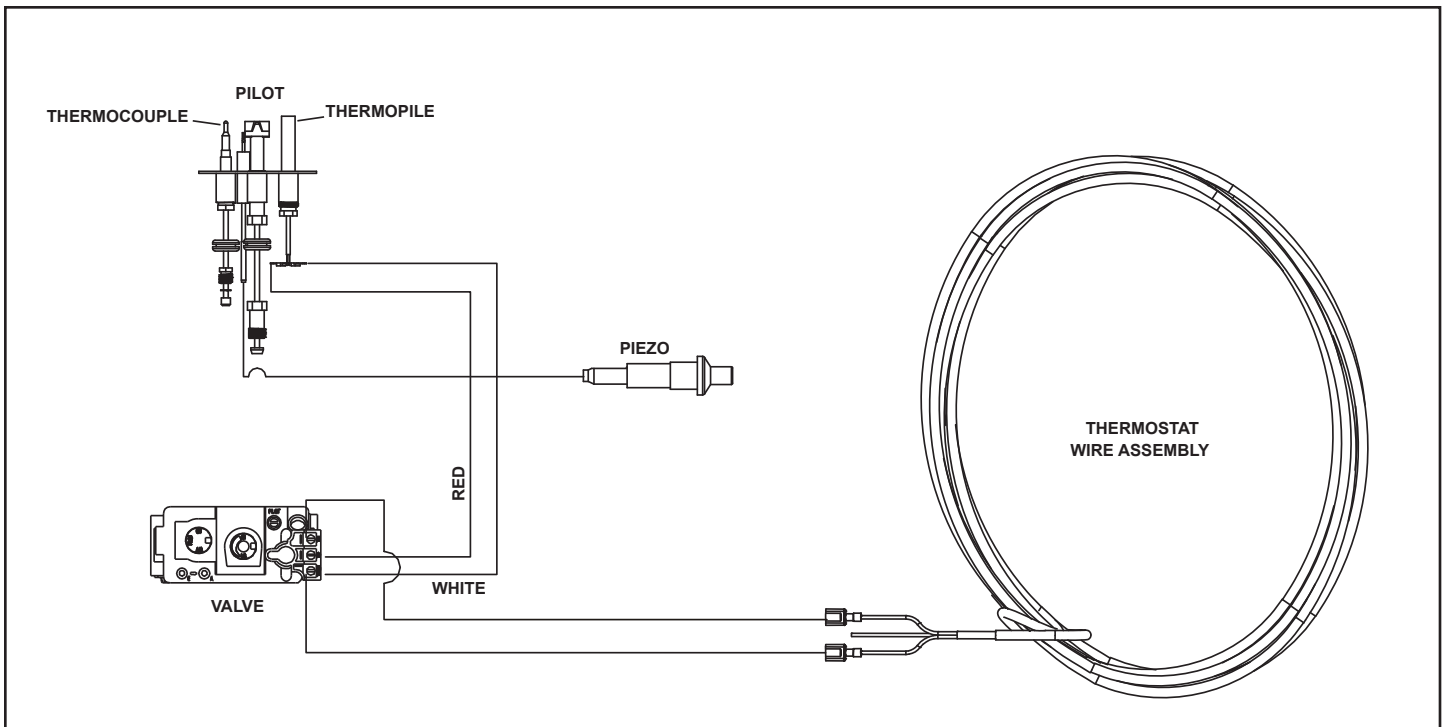

Figure 8.5 Standing Pilot Wiring Diagram
- The standing pilot ignition system wiring does not require a 110-120 VAC supply to operate. See Figure 8.5.